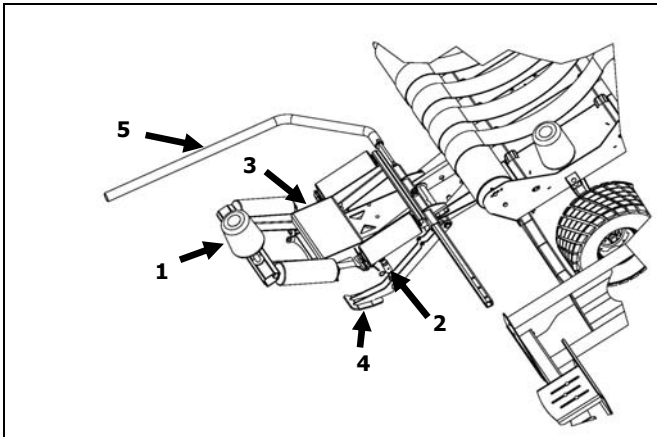

Figure 8.8 Bale unloading platform D3
For transport, it is necessary to manually retract the retaining bar (2) (Figure 8.8).